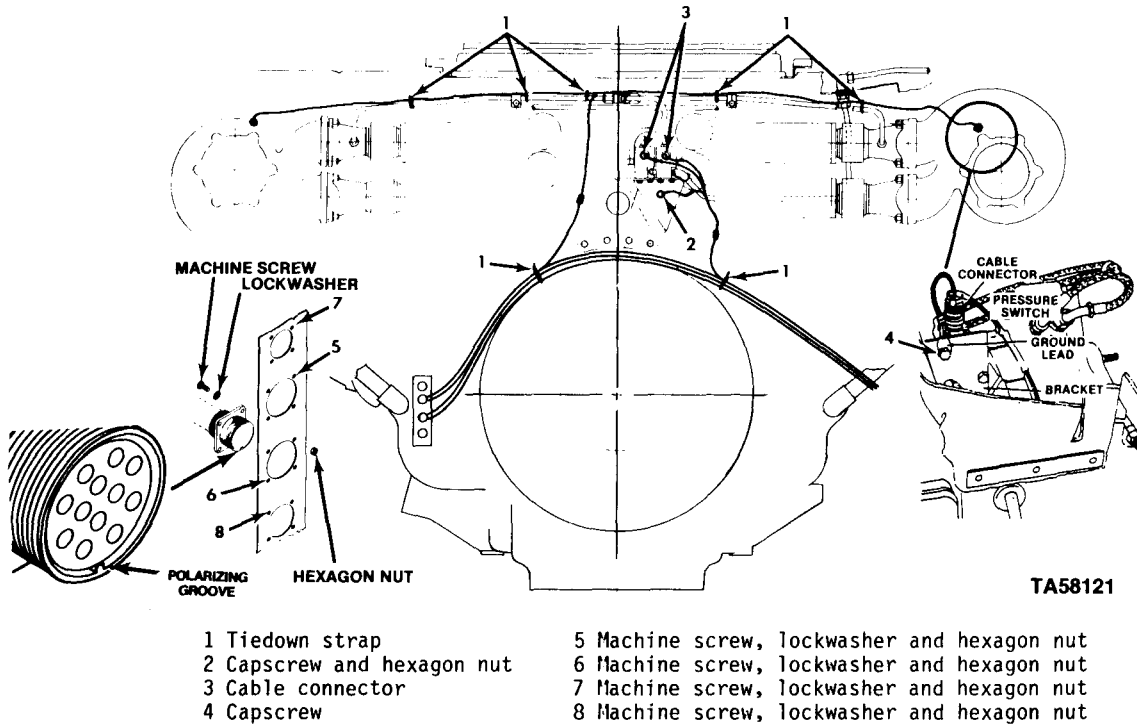
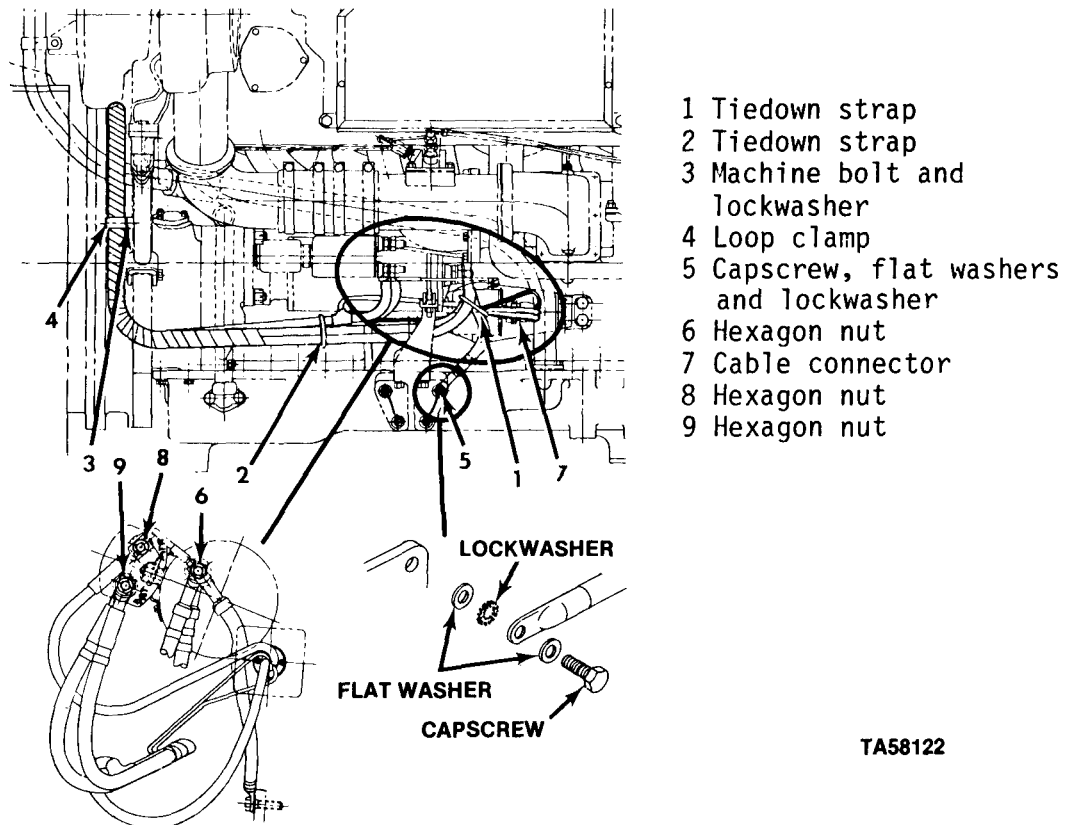

Figure 2-147.2 Removing or installing smoke generator cable, dust detector harness and wiring harness connectors, Model AVDS-1790-2DR
Figure 2-147.3 Removing or installing starter 1 lead and wiring harness, Model AVPS-1790-2DR
(1) Removal
(a) Cut and remove seven tie down straps (1, fig. 2-147.2). Remove capscrew and hexagon nut (2) and remove ground lead terminal from solenoid valve bracket. Disconnect two cable connectors (3) from smoke solenoid valves. Disconnect plug connector circuit No. T from starter ground harness. Remove cable assembly.
(c) Cut and remove tie down strap (1, fig. 2-147.3). Cut and remove tie down strap (2). Remove machine bolt and lockwasher (3) and remove loop clamp (4). Remove one capscrew, two flat washers and one lockwasher (5) and remove ground lead terminal lug from support bracket. Remove hexagon nut (6) and remove ground lead terminal lug from starter terminal stud. Remove lead.
(d) Remove two harness terminal lugs from starter terminal stud. Remove four machine screws, lockwashers and hexagon nuts (5, fig. 2-147.2) and remove connector from mounting bracket. Remove harness.
(e) Disconnect plug connectors circuits No. C, K and M from main harness. Disconnect cable connector (7, fig. 2-147.3) from low voltage protection module. Remove hexagon nut (8) and terminal lug from starter relay terminal stud (motor). Remove hexagon nut (9) and two terminal lugs from starter relay terminal stud (battery). Remove four machine screws, lockwashers and hexagon nuts (6, fig. 2-147.2) and remove connector from mounting bracket. Remove wiring harness.
and 26 part of main harness and remove lead terminal lug circuit No. 2. Remove four machine screws, lockwashers and hexagon nuts (7, fig. 2-147.2) and remove connector from mounting bracket. Remove lead.
and hexagon nuts (8, fig. 2-147.2) and remove connector from mounting bracket.
(e) On right side, install disconnect cable connector to mounting bracket and secure with four machine screws, lockwashers and hexagon nuts (8, fig. 2-147.2).
(g) Install disconnect cable connector to mounting bracket and secure with four machine screws, lockwashers and hexagon nuts (6, fig. 2-147.2). Position harness over transmission housing adapter and twist, as required, connecting cable connector (7, fig. 2-147.3) to low voltage protection module. Connect terminal lug circuit No. 74 to starter relay terminal stud (motor) and secure with hexagon nut (8). Connect two terminal lugs circuits No. 82 to starter relay terminal stud (battery) and secure with hexagon nut (9). Connect plug connectors circuits No. C, K and M to main harness mating plug connectors.
(h) Install disconnect cable connector to mounting bracket and secure with four machine screws, lockwashers and hexagon nuts (5, fig. 2-147.2). Position harness over transmission housing adapter and place two ground terminal lugs on starter terminal stud.
(i) Position ground terminal lug on starter support bracket and secure with one capscrew, two flat washers and one lockwasher (5, fig. 2-147.3). Install other ground terminal lug to
(j) Connect cable connector circuit No. 510 to air pressure switch. Position ground terminal on switch bracket and secure with capscrew (4, fig. 2-147.2).